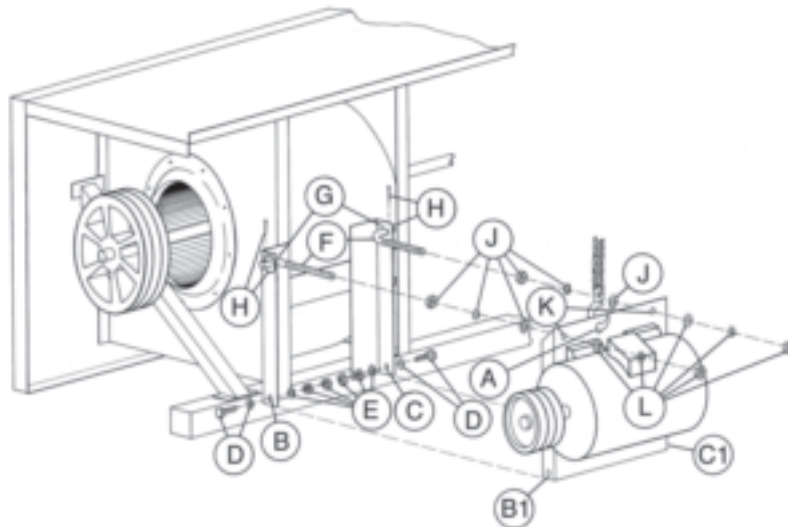

Figure 20 – Motor Installation
1. Study Figure 20 before installing the motor bases on the unit.